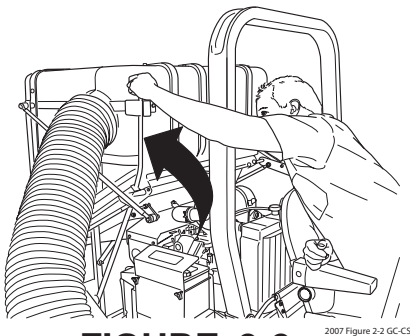

FIGURE 2-2
- Once the material has been completely removed from the hopper, lift the hopper door handle to close the hopper door and lock into place. See Figure 2-2.